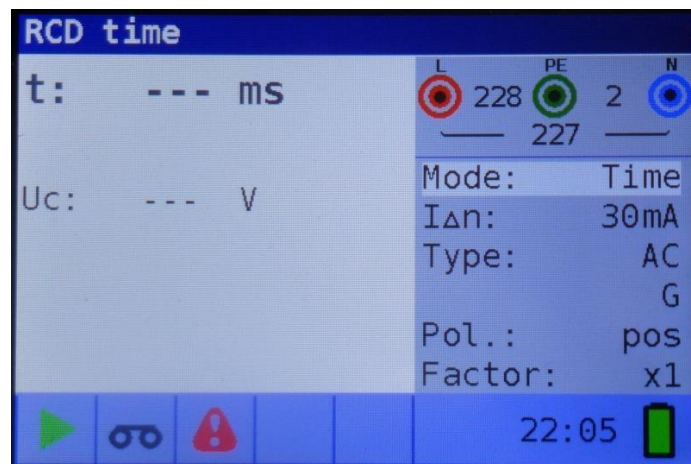

Figure 5-15: Trip-out time measurement menu
- Step 3** Connect the test leads to the instrument and follow the connection diagram shown in figure 5.15 to perform contact voltage measurement.
- Step 3** Connect the leads to the instrument and follow the connection diagram shown in figure 5.15 (see the chapter 5.3.6 *Contact voltage*) to perform trip-out time measurement.
Step 3 Connect the test leads to the instrument and follow the connection diagram shown in figure 5.15 (see the chapter 5.3.6 *Contact voltage*) to perform trip-out current measurements.
Step 3 Connect the test leads to the instrument and follow the connection diagram shown in figure 5.15 (also see the chapter 5.3.6 *Contact voltage*) to perform the RCD autotest.